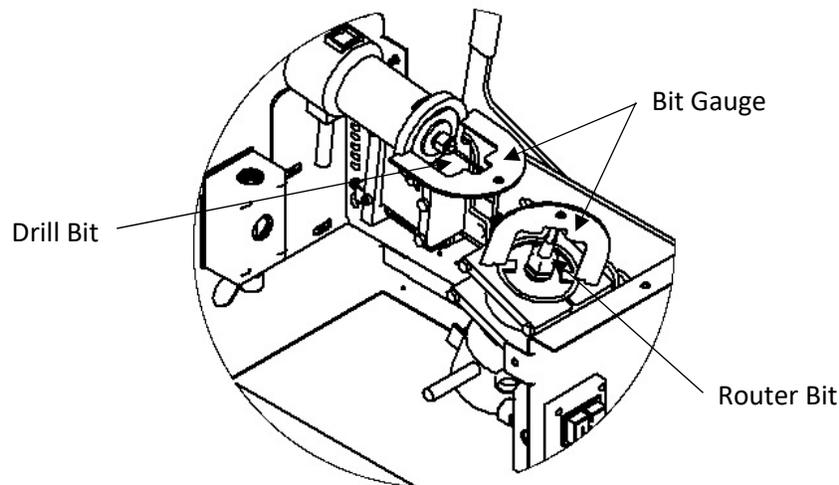

Figure 25: Installing Motors
1. Install the appropriate bit into the collet, finger tighten. A Drill Bit should extend approximately 1-1/4" from the end of the collet, (Figure 25). A Router Bit should extend approximately 1-5/8" from end of collet (Figure 25). Tighten Collet. This setting is for motor installation reference only, do not cycle the machine until step 4 is complete!
2. Mount the motor into its bracket(s), (Figure 25) using the appropriate Bit Gauge (Figure 25) to assist in aligning the motor in the correct position. Tighten the bolts securing the drill motor and/or router motor.
3. Position the Bit Gauge (Figure 25) against the drill mount (Figure 25) or router mount and confirm the bit is up against the bottom of the Bit Gauge.
**Always use supplied Bit Gauge (Figure 25) when installing router or drill motors or bits. Failure to do so could result in the bits colliding with each other or the machine table when the machine is cycled. If your guide is missing or damaged contact SSM for a replacement.**